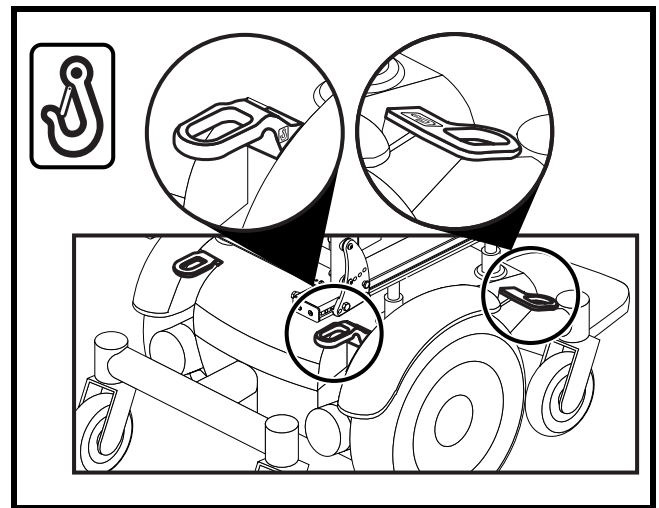

Figure 9. Transit System Securement Brackets
- Attach the four tie-down straps only to designated, labeled transit securement points indicated by anchor symbols on the power chair. See figures 9 and 10. Tighten the straps to sufficiently remove all slack.
- Position the anchor points for the rear tie-down straps directly behind the rear securement points on the power chair. The front tie-down straps should be anchored to floor points that are spaced wider than the power chair to provide increased stability. See figure 9.